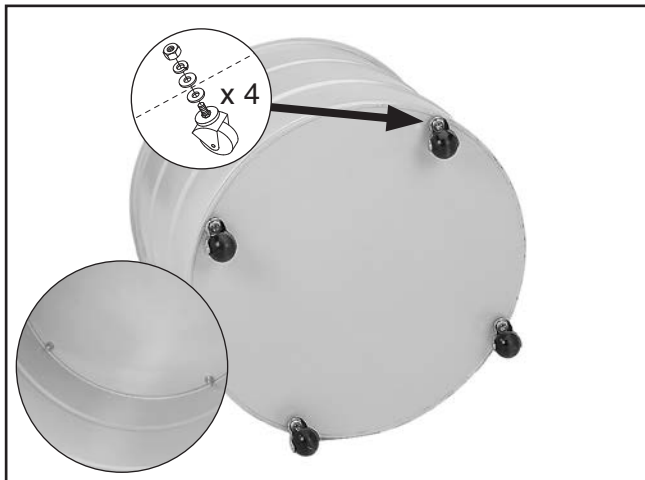

Figure 18. Casters attached to lower collection drum.
15. Attach casters to bottom of lower collection drum, as shown in **Figure 18**, using (4) $\frac{3}{8}$ "-16 hex nuts, (8) $\frac{3}{8}$ " flat washers, and (4) $\frac{3}{8}$ " lock washers included in box with casters.